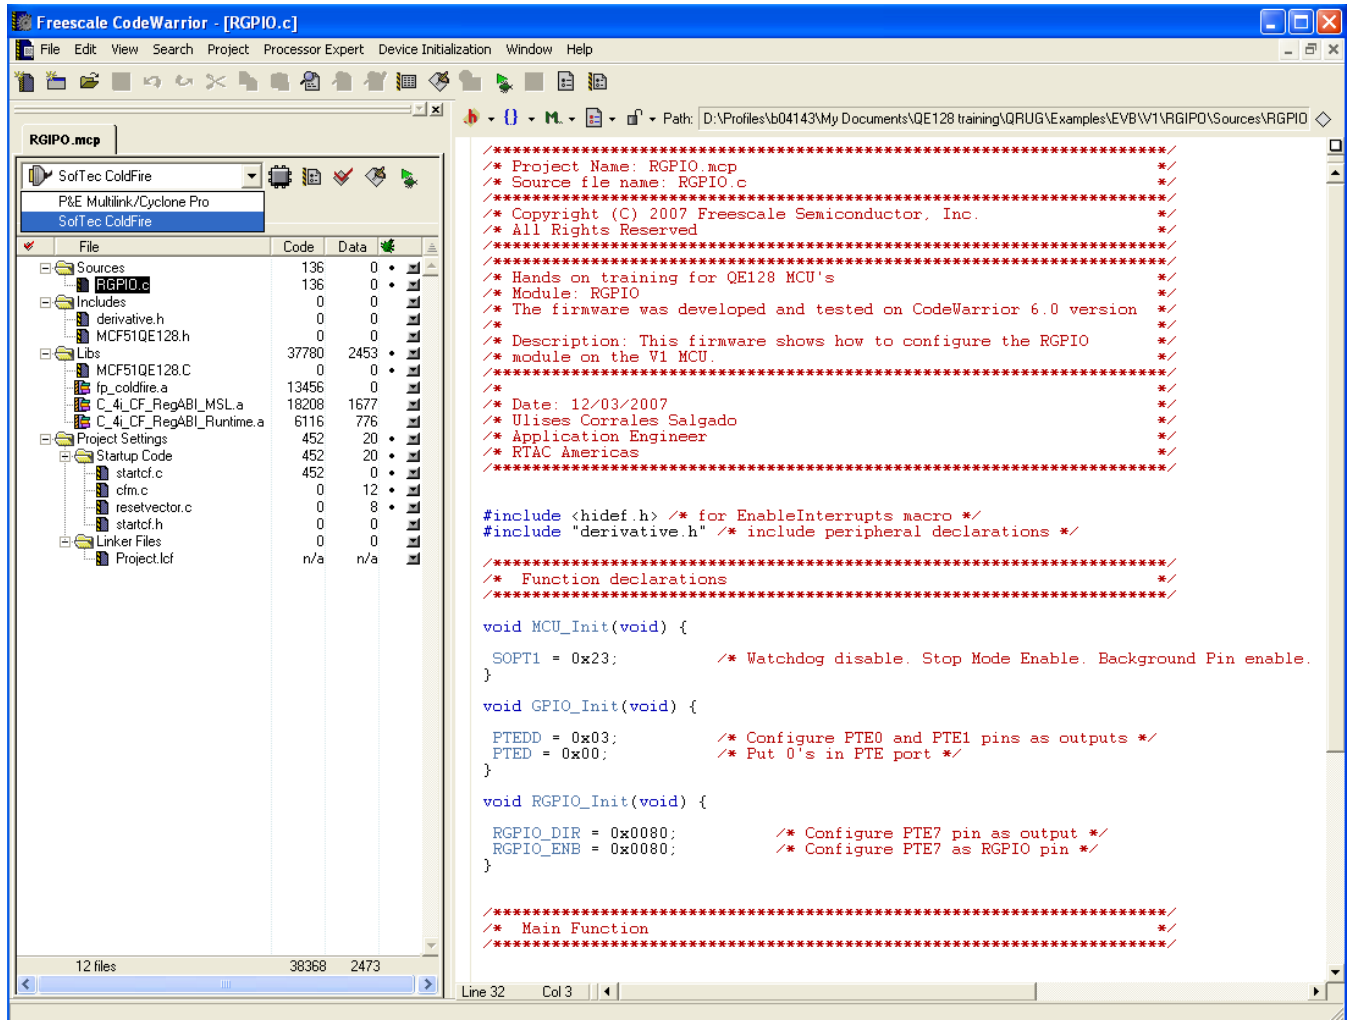

Figure 3-7. Select the Correct Option in the Combo Box
6. On the left side of the window is a combo box. Select the SofTec option as shown in Figure 3-7.